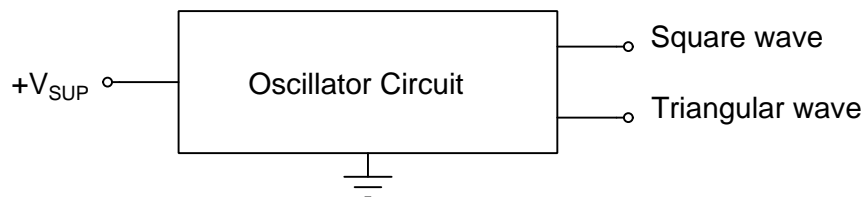
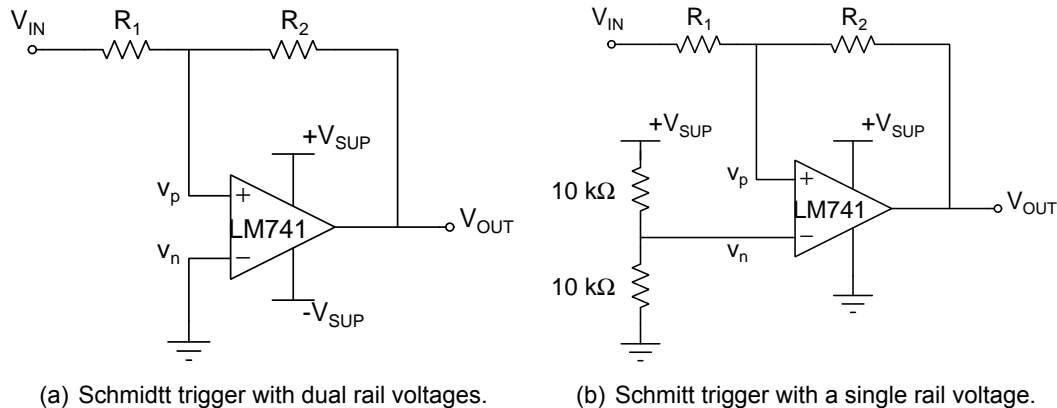
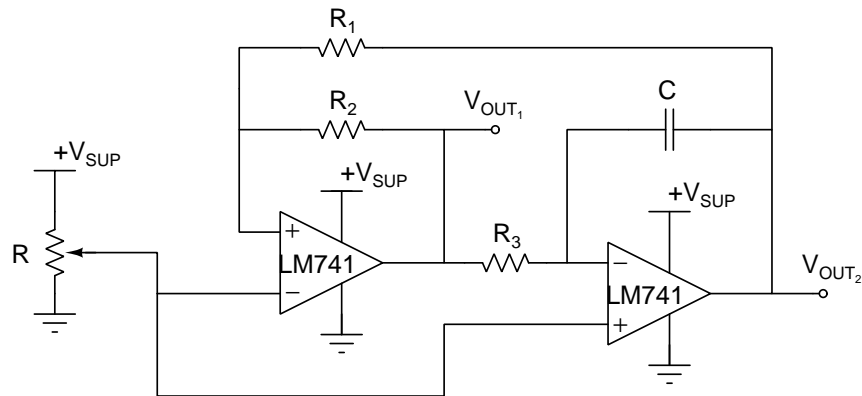

Figure 1: Block diagram of the oscillator circuit showing the inputs and outputs.
Figure 2: Schmitt trigger circuit using an Op Amp with positive feedback.
Figure 3: Oscillator circuit using a Schmitt trigger and an inverting integrator.
Two LM741 Operational Amplifiers (OpAmps) are used to produce an oscillator. A block diagram, showing the inputs and outputs, is shown in Figure 1. The input to the circuit is a DC voltage of $+V_{SUP}$. The output of the circuit consists of a $\sim 10 V_{pp}$ square wave and a $\sim 5 V_{pp}$ triangular wave. The oscillator is formed by connecting the output of a Schmitt trigger, shown in Figure 2, to the input of an inverting integrator (see Lab #4), and then connecting the output of the inverting integrator back to the input of the Schmitt trigger. The complete oscillator circuit is shown in Figure 3.
1. There are many ways to implement a Schmitt trigger. One method uses an OpAmp configured with positive feedback as shown in **Figure 2(a)**, for a dual-rail OpAmp, and **Figure 2(b)** for a single-rail OpAmp. In these circuits, the output of the OpAmp (V_{OUT}) is connected through resistor R_2 to the **non-inverting** input (v_p) of the OpAmp. This results in an amplifier circuit with positive feedback.
Assume the OpAmp in **Figure 2(b)** is ideal. Analyze this circuit and derive an equation for the two trigger levels in terms of the resistor values R_1 and R_2 . When $R_1 = 3\text{ k}\Omega$ and $R_2 = 12\text{ k}\Omega$, calculate the trigger levels that cause the output to switch from zero to $+V_{SUP}$, and from $+V_{SUP}$ to zero, and
2. For the Schmitt trigger circuit in **Figure 2(b)**, determine values for resistors R_1 and R_2 so that the separation of the Schmitt trigger levels are $5 \pm 0.2\text{ V}$. Assume the OpAmp is ideal and $+V_{SUP} = 12\text{ V}$. With the chosen values of R_1 and R_2 , what are the two Schmitt trigger levels?
3. Simulate the transfer function of the Schmitt trigger circuit in **Figure 2(b)** with the resistor values you calculated in **item 2**. Set the power supply voltage ($+V_{SUP}$) to 12 VDC , and the input voltage (V_{IN}) to a DC voltage source. Use DC analysis to sweep the input voltage between 0 to 12 V . A MATLAB® file for NGspice is available at https://ece214.davidkotecki.com/docs/Matlab/ECE214_2022_Lab5_Schmitt.m. Analyze the simulated behavior of the circuit using both the ideal OpAmp and the LM741 OpAmp.
- Describe the function of the circuit shown in Figure 3. Assume the variable resistor is set to the mid-point resistance. Sketch the shape of the expected output signals V_{OUT1} and V_{OUT2} as a function of time.
- Perform a transient simulation of the circuit of Figure 3 using the Ideal OpAmp. What is the simulated value of the oscillation frequency? What is the duty cycle? A MATLAB® file for NGSpice is available at https://ece214.davidkotecki.com/docs/Matlab/ECE214_2022_Lab5_Osc.m.
- Perform a transient simulation of the circuit of Figure 3 using the LM741 OpAmp. Since the OpAmp is not ideal, the value of R_3 you calculated may be off by as much as 20%. Adjust the value of R_3 to produce an oscillation frequency of 1 ± 0.1 kHz.